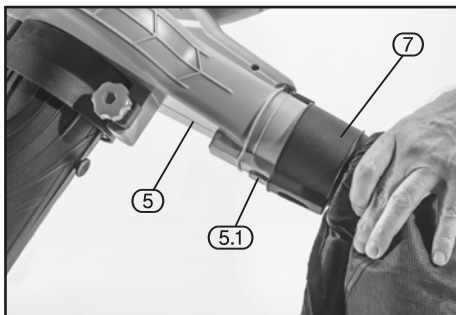

FIG.9
8.4 INSTALLING/REMOVING THE COLLECTION BAG FIGS 9 - 12